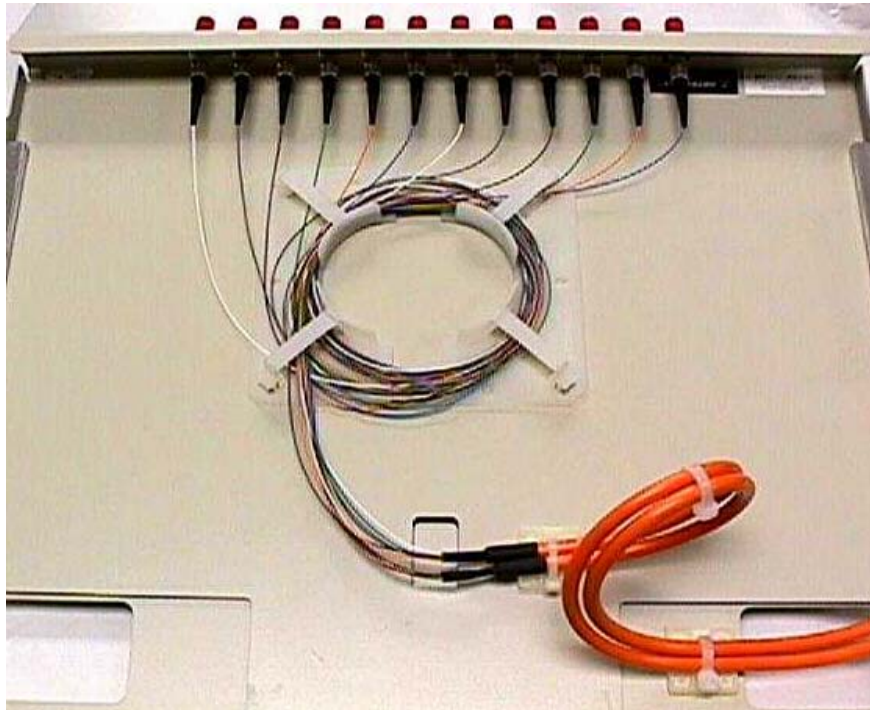

Figure 6.1
- 6.1.5 Loop the jacketed fiber and secure to the tie wrap holdown block located on drawer with a tie wrap as shown in Figure 6.1.
- 6.1.6 Route the cable through the ring. Refer to Figure 6.1